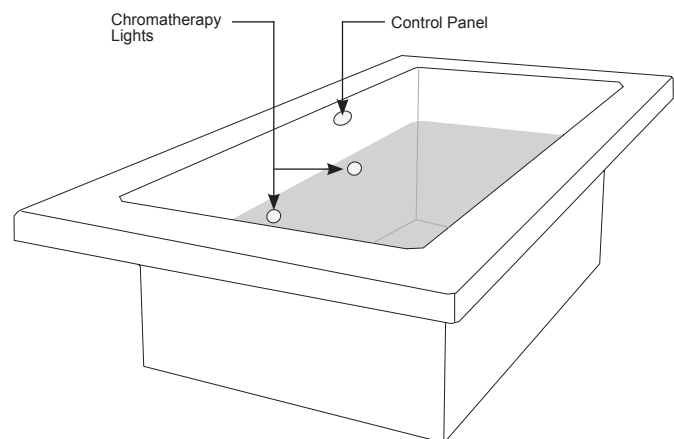

Figure 2 - Possible Configuration
- 1 Plan the location of the control panel. A possible configuration is shown at right (Figure 2).